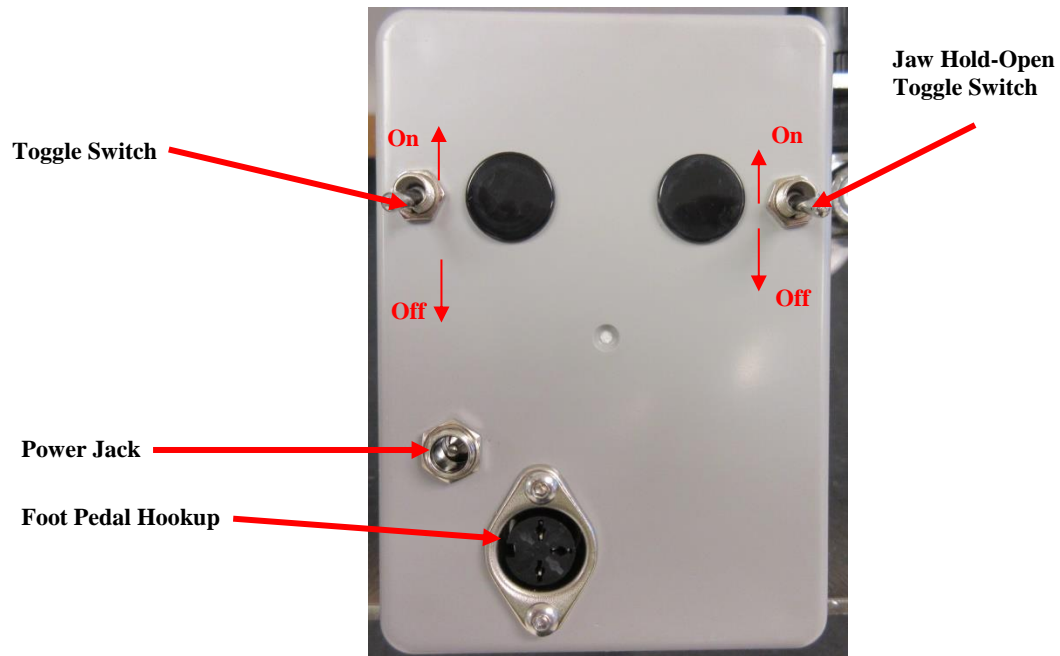

Figure 3.3.1
- Setting up the connections on the CRD221 is a simple task. Refer to *Figure 3.3.1* below when making all connections to the back panel.